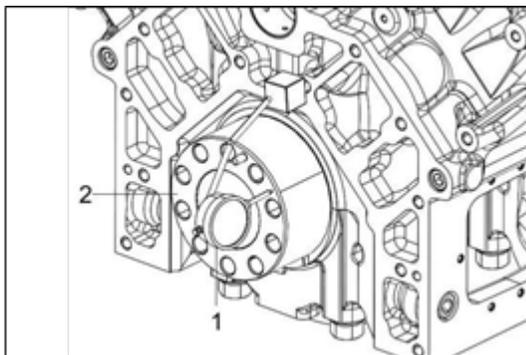

Figure 113.
**METHOD A:** Install a dial gauge (Figure 113, item 1) on the cylinder block. Move the crankshaft (Figure 113, item 2) front to rear to measure the end play. Record the measurement.